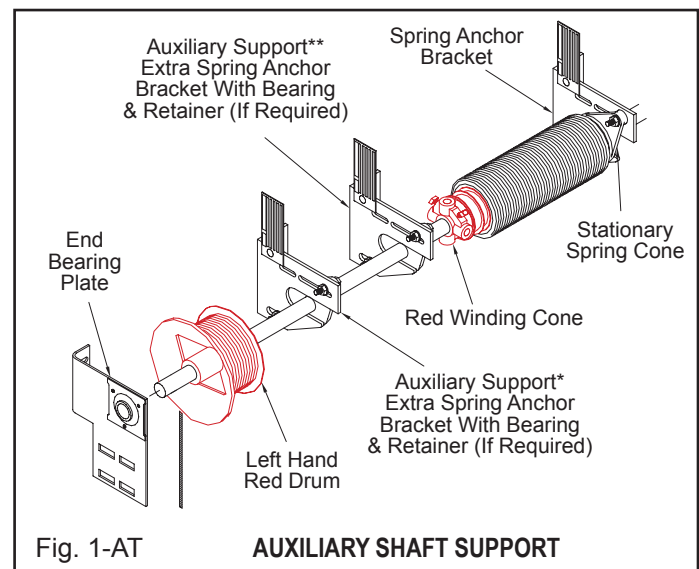

Fig. 1-AT
Loosen all set screws on springs and drums. Slide springs, shaft bearing and drums on tube. Slide tube into one end bearing plate then back through the opposite one center tube. **Fasten spring anchor bracket to anchor pad using 5/16" x 1-5/8" [8 mm x 41 mm] red-colored lag screws (wood) or 5/16" x 1" [8 mm x 25 mm] red-colored self-tapping screws (steel).** Slide shaft bearing into the stationary cone on spring. Slide spring against spring anchor bracket and attach using (2) 3/8" [10 mm] cap screw and bolt. See warning below. Tube must be straight and level (Fig. 1-TOR).
Refer to Fig. 1-AT for placement of auxiliary shaft supports, if required. Auxiliary bearings must be assembled to the shaft before drums are put on shaft.